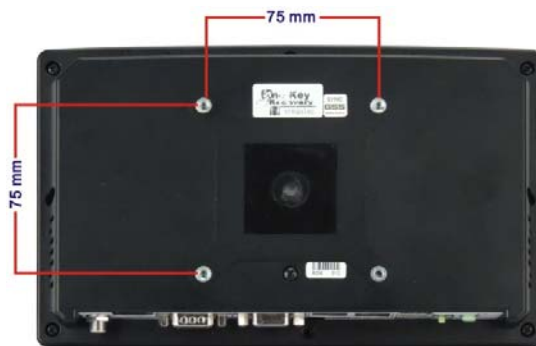
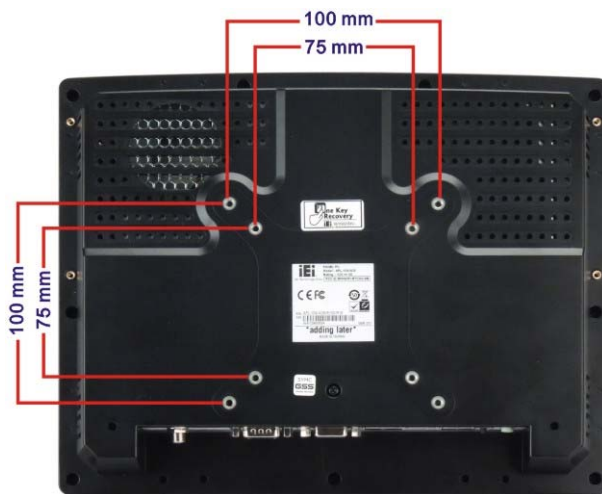

Figure 3-24: AFL-W07A-N26/AFL-08A-N26 Arm Mounting Retention Screw Holes
Figure 3-25: AFL-10A-N26/AFL-12A-N26 Arm Mounting Retention Screw Holes
Step 3: Align the retention screw holes on the mounting arm interface with those in the flat panel PC. The AFL-W07A-N26 and AFL-08A-N26 arm mount retention screw holes are shown in **Figure 3-24** and the AFL-10A-N26 and AFL-12A-N26 are shown in **Figure 3-25**.